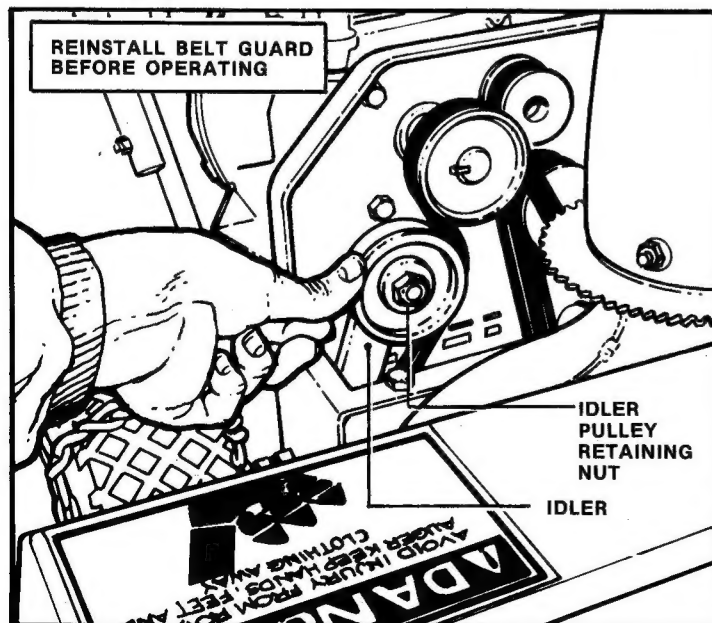

FIGURE 3.4
**3.8 BELT TENSION:** Tension on the traction drive belt is automatically maintained by an individual idler spring. After removing the belt guard and bottom cover, check to make sure this spring is intact and properly installed. If the spring is properly connected, check for excessively worn belts. Notice the return spring on the idler for the blower drive - this spring activates the brake. The idler should always return to braking position! Tension of the blower drive belt, which is on the  $\frac{3}{4}$  dia. engine drive pulley, is adjusted by loosening and repositioning the idler pulley. To increase tension, loosen the idler pulley retaining nut, hold the idler arm and push the pulley tighter against the belt. See Figure 3.4. Retighten nut after repositioning and check for proper clutching action with blower clutch handle released. Tension of the traction belt on the inside groove is non-adjustable. Before reinstalling belt guard, check to make sure the belt guide on the right side is about  $\frac{1}{16}$ " away from the outside surface of the blower belt with clutch engaged. Adjust the guide by loosening bolts and moving guide.